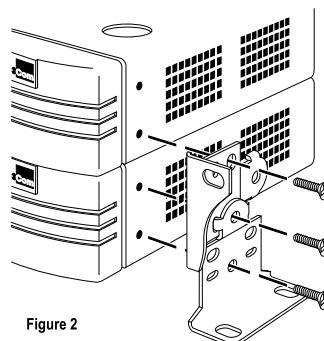

Figure 2
- Locate two mounting brackets over the mounting holes on one side of the units, as shown in figure 2 below.